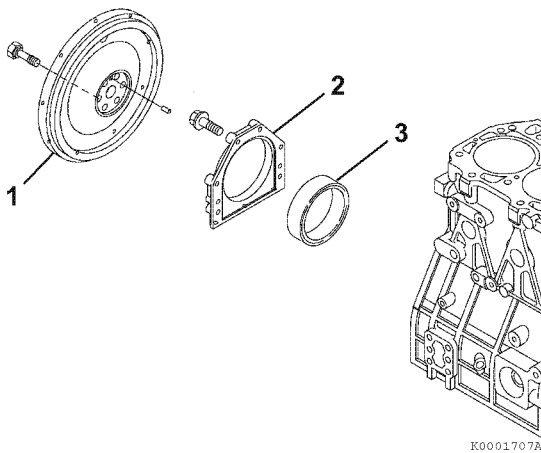

Figure 6-104
1. Remove the flywheel (1, **Figure 6-104**) from the crankshaft.
2. Remove the bolts from the rear oil seal assembly (2 - 3, **Figure 6-104**). Remove the assembly from the engine.